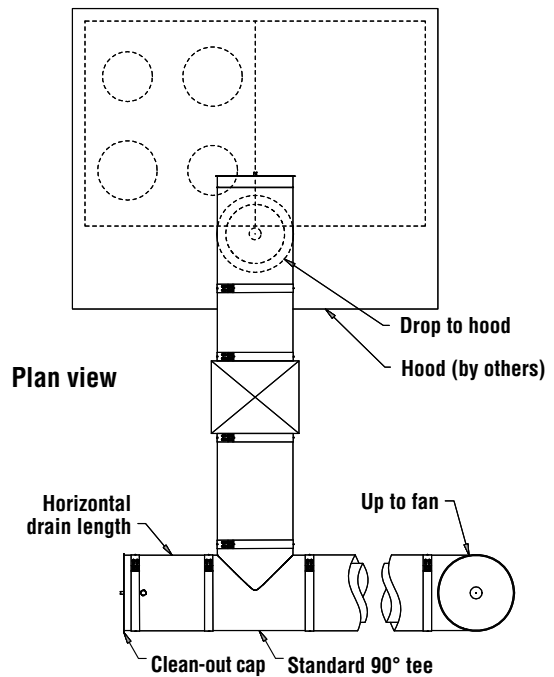

Figure 68 - Horizontal drain length typical location
3. The duct drain is intended for use at the end of a horizontal run where access and drainage is needed (See **Figure 68**).